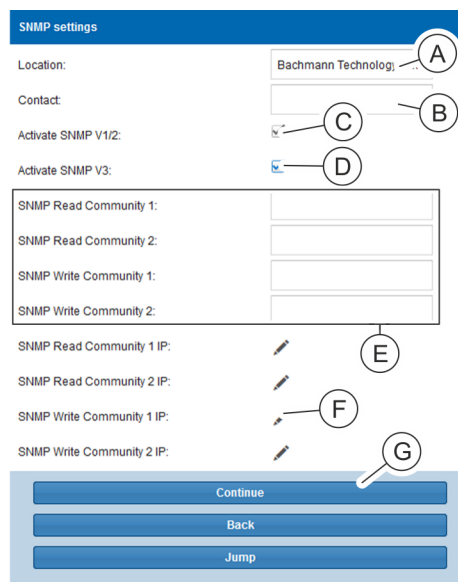

Fig. 58: “SNMP settings” window
In the “SNMP settings” window, enter the location (/Fig. 58/Ⓐ) and the contact (Fig. 58/Ⓑ).
If required, click the ‘Activate SNMP V1/2’ checkbox (Fig. 58/Ⓒ).
If required, click the ‘Activate SNMP V3’ checkbox (Fig. 58/Ⓓ).
If necessary, enter an SNMP Read Community or SNMP Write Community (Fig. 58/Ⓔ).
If necessary, click on the pencil icon (Fig. 58/Ⓕ) to set up the SNMP access control.
- 21. Confirm the entry by clicking the 'Continue' button (Fig. 58/Ⓒ).